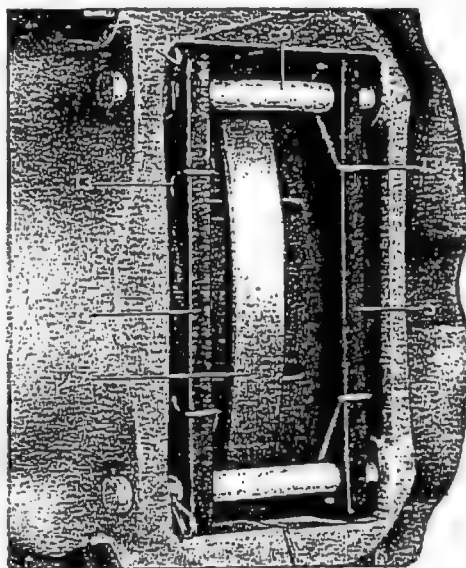

Fig. 42-21/14
Girling brake calipers occasionally produce rattling noises when the car is being driven on bad roads. The cause is excessive radial play of the friction pads in the brake caliper housing. Only in a few cases can the noise be eliminated by installing new friction pads. Wire springs, Part No. 000 421 01 91, have now become available which can do much to prevent the rattling (see no. 13 in Fig. 42-21/14). These wire springs should only be installed when the friction pads have been conclusively proved to be responsible for the noise.
3. Install the wire spring (13) on the friction pads (5) and insert the pads in the brake caliper (Fig. 42-21/14).
4. Install the lock pins (6) taking care to ensure that both wire ends press against the lock pins under initial tension.